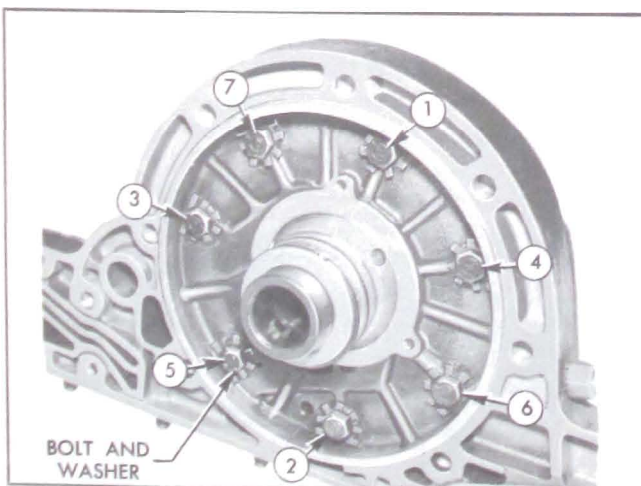

Figure 5-84—Front Oil Pump Bolt Tightening Sequence
4. Install oil pump on cover so that the two dowel pins and the bolt holes match holes in cover, then install bolts with lockwashers. Tighten bolts to approximately 5 ft. lbs. torque in the sequence shown in Figure 5-84 and then tighten in same sequence to 25-30 ft. lbs. Bend a tang of each lockwasher up against flat of bolt head. Tighten cover attaching stud nut to 25-30 ft. lbs. torque.